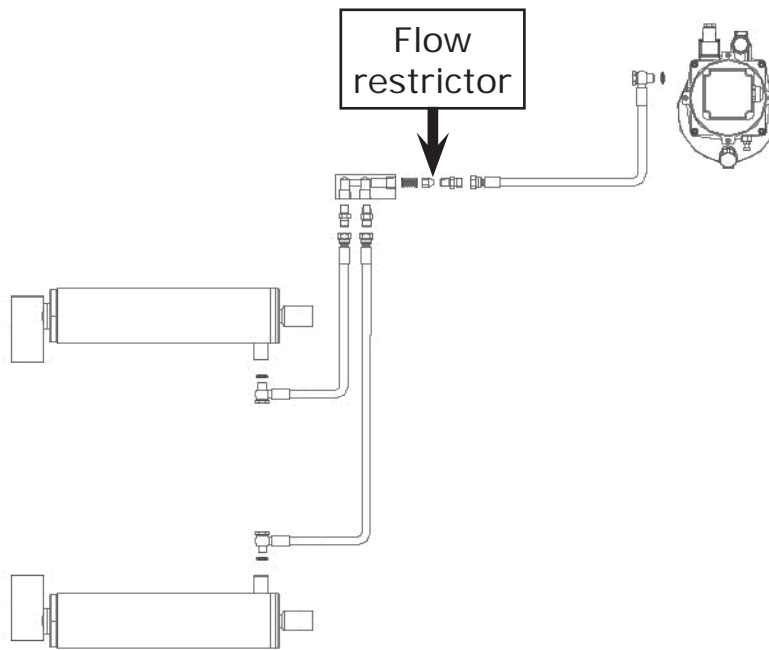

Figure 13 – Hydraulic Connections
- Connect hydraulic hoses referring to Fig. 13;